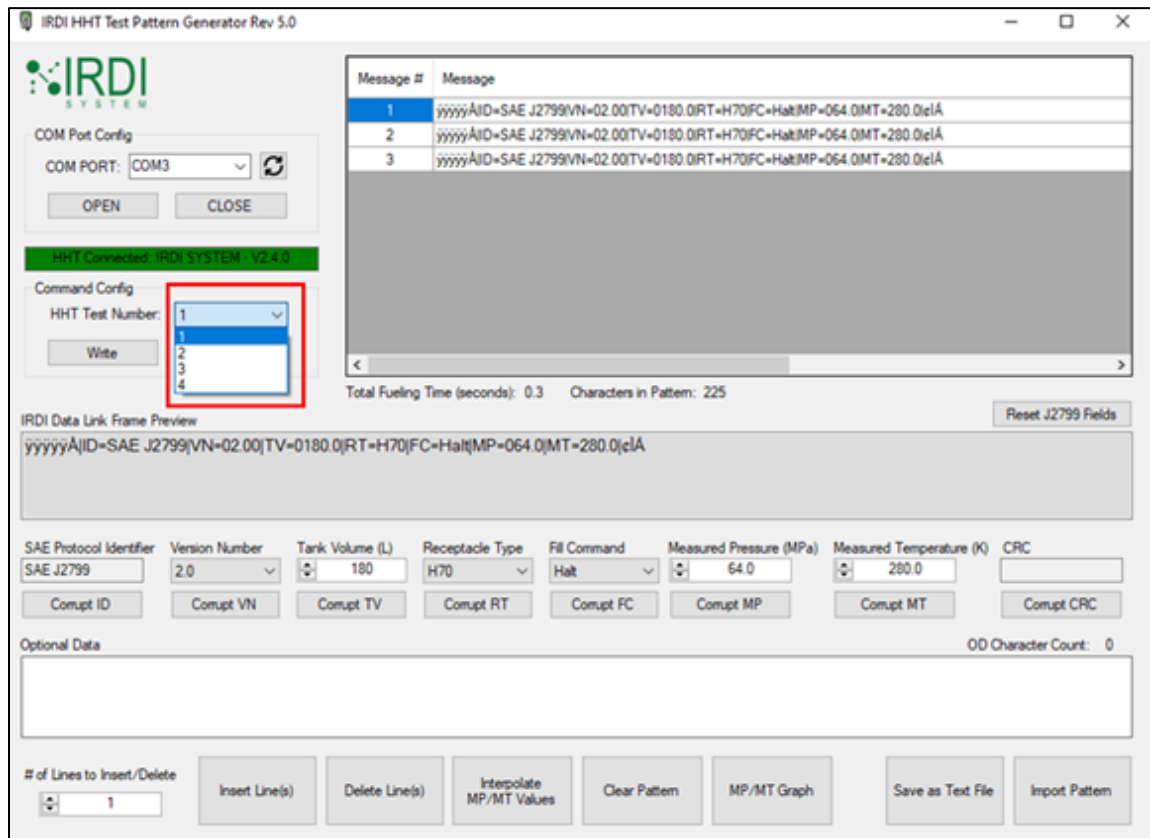

FIGURE 6-24 HHT TEST PATTERN GENERATOR SOFTWARE – SELECT TEST NUMBER
STEP 2	Under “HHT Test Number”, use the drop-down menu to select the number (1 through 4) of the test file to read from the HHT – see Figure 6-24.